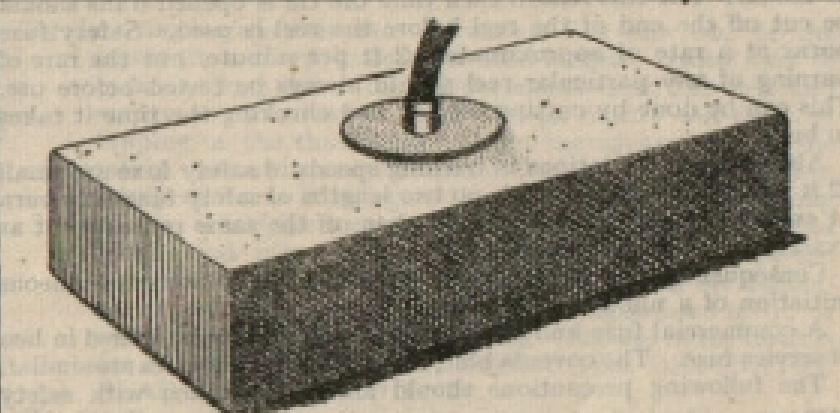

Fig 3. Gun-cotton slab with primer, detonator and safety fuze
**NOTE.**—For fixing and initiation of primers see Figs 3 and 4.